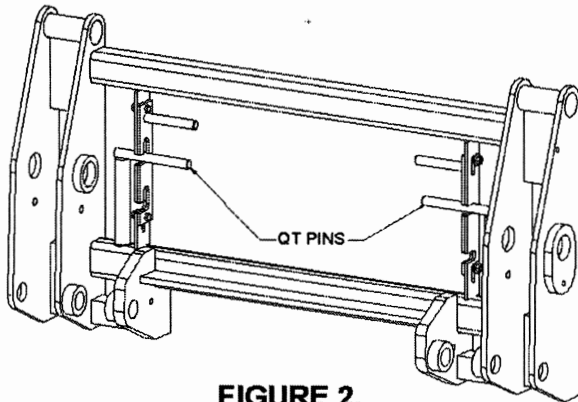

FIGURE 2.
**STEP 2** Install the belly mounts onto the tractor—one on the right side and one on the left side. Install the bolts and washers, but **DO NOT TIGHTEN THEM YET!** The belly mounts must be able to move back and forth in the following steps. See Figure 2.
**STEP 2** Tilt the bucket down slowly so that the cam block on the loader aligns with the cam pocket on the mountings. See Figure 2. Slowly drive the tractor forward so that the cam blocks slide into the cam pockets and the front tube slides into the yoke tube on the front of the loader.
**STEP 2** Gently lower the loader until the stand legs rest on the ground. Tilt the bucket forward until the cutting edge is also resting on the ground. See Figure 2.
2. Rotate QT pins out of the lower notches, raise, and then rotate them into the upper notches of the sliding latches as shown in Figure 2.
2. When the QT frame is flat against the attachment, raise the sliding latches as shown in Figure 2.